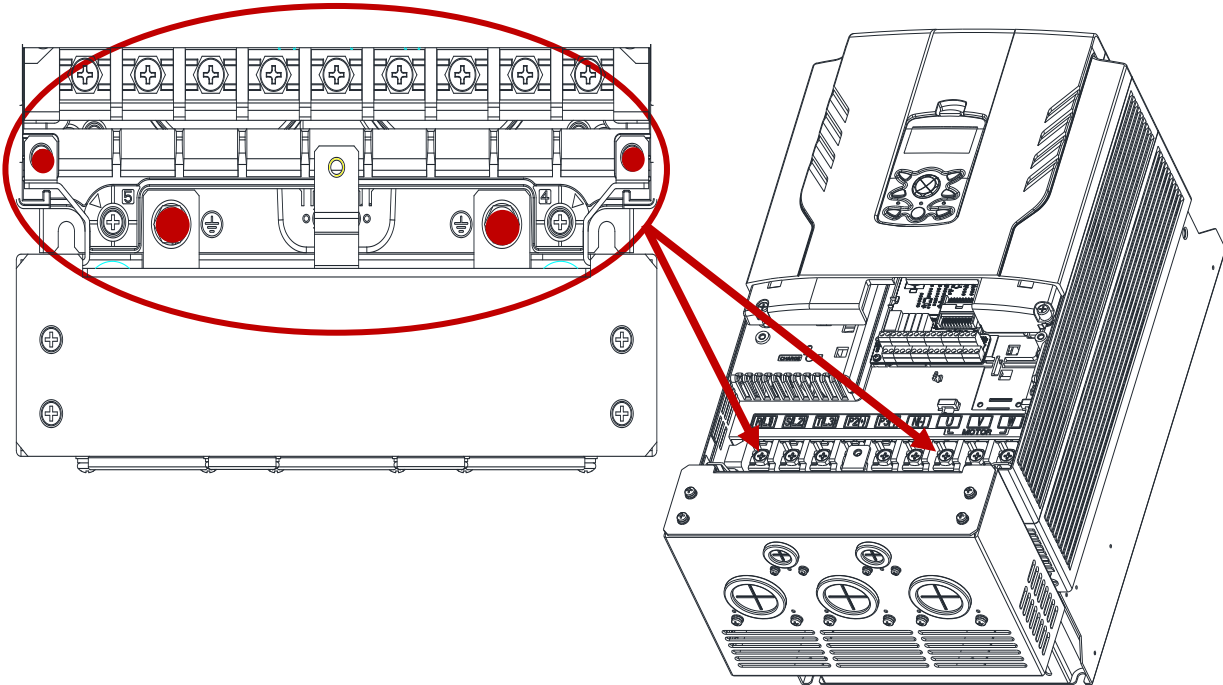

Figure 5. Install
- ② Fasten the Conduit Option to fit on the ground terminals and both ends (4points) of the product using the prescribed bolt as shown in the Figure 5.